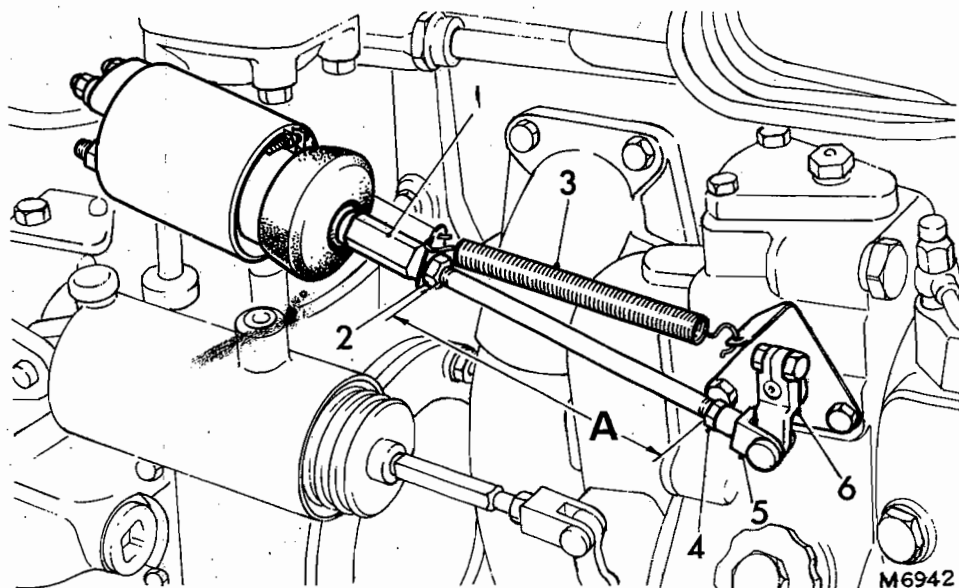

FIG. 10. ENGINE STOP SOLENOID AND LINKAGE
**Note:** If it is necessary to remove the plunger, note distance between locknuts, dimension 'A' Fig. 10, first. Plunger can then be released by slackening locknut (4) and unscrewing plunger using an open ended spanner on hexagon (1)
1. Check that fuel pump lever, Fig. 10, is hard against stop with solenoid de-energised. If not, this may be due to incorrect adjustment of link allowing solenoid plunger too much travel.